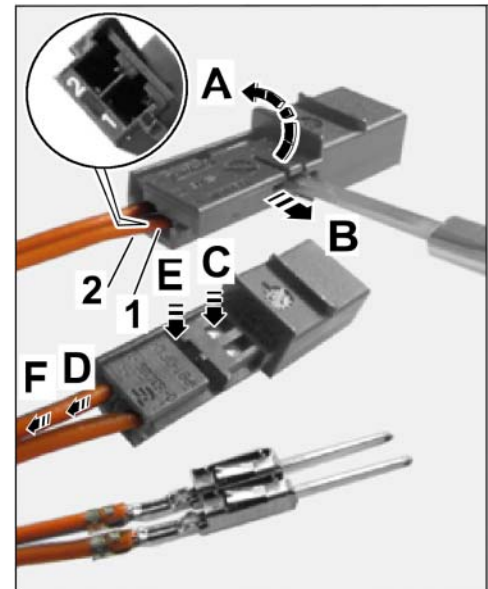

Figure 13
- Release (2-pin) connector housing for CAN bus (⇒ *Figure 13-A and B*).
- Press lightly on retaining spring on the pin contact (⇒ *Figure 13-C*) and pull line with pin contact out of the connector housing slightly at the same time (⇒ *Figure 13-D*).
- You may have to do this a second time because of the housing bar (⇒ *Figure 13-E and F*).